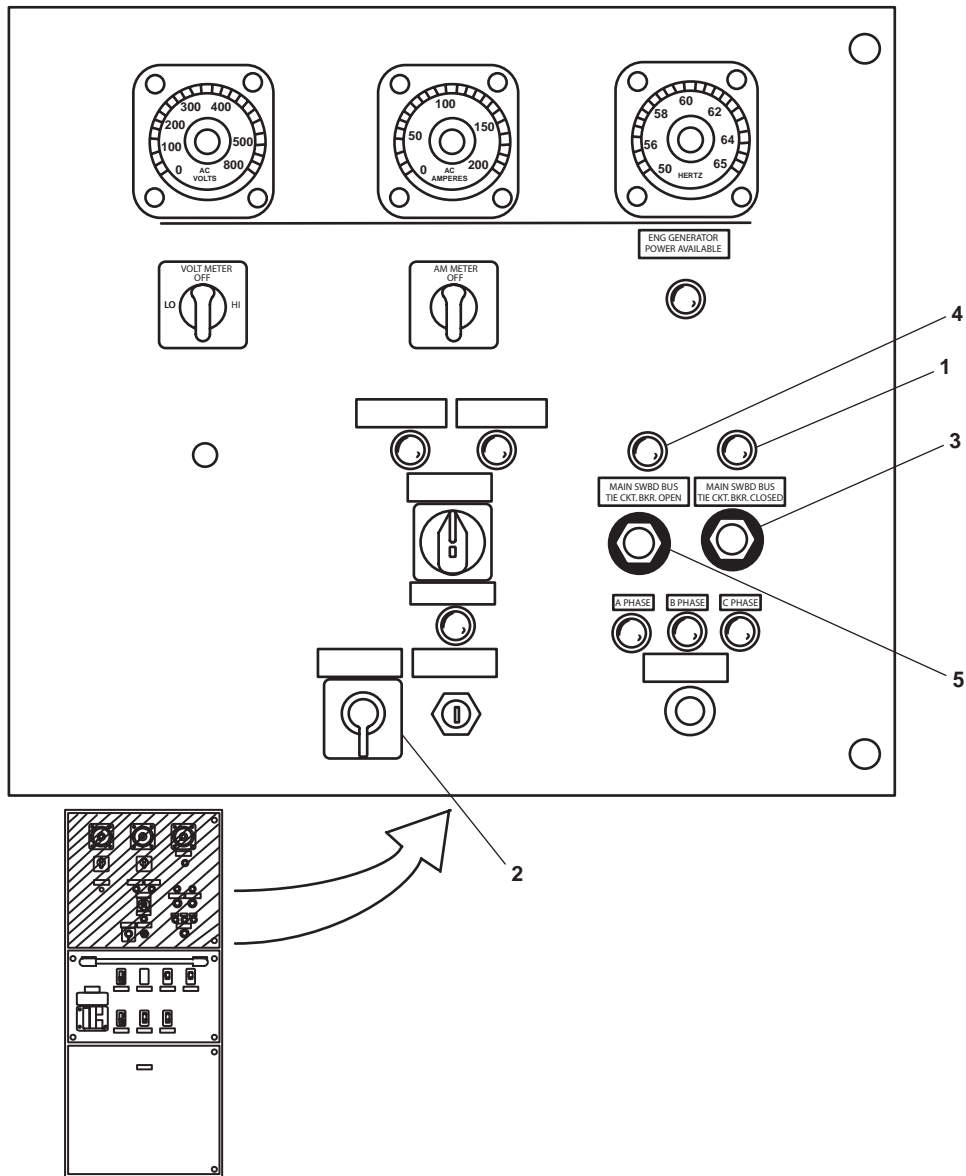

Figure 3. Emergency Switchboard
- a. Ensure that the MAIN SWBD BUS TIE CKT. BKR. CLOSED indicator (figure 3, item 1) is ILLUMINATED.
- b. Turn the ENGINE CONTROL SW. MAN. OFF AUTO. switch (figure 3, item 2) to the MAN. position.
- c. Push the MAIN SWBD BUS TIE CKT. BKR. CLOSED pushbutton (figure 3, item 3) to ON.
- c. Ensure that the MAIN SWBD BUS TIE CKT. BKR. OPEN indicator (figure 3, item 4) is illuminated.
- a. Set the ENGINE CONTROL SW. MAN. OFF AUTO. switch (figure 3, item 2) to the MAN. position.
- b. Push the MAIN SWBD BUS TIE CKT. BKR. OPEN pushbutton (figure 3, item 5) to the ON position.